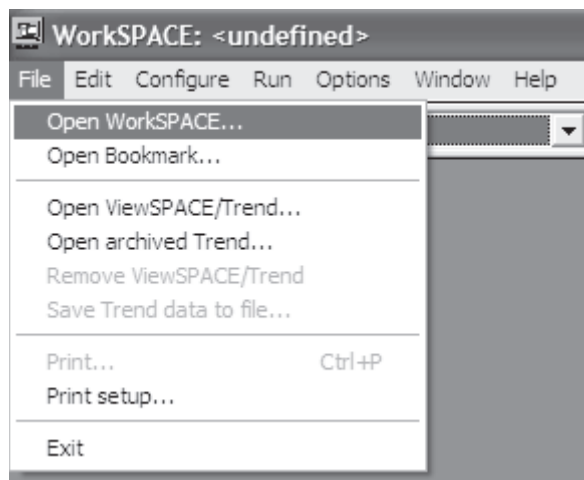

Fig. 15 — Select Open Workspace
14. From chiller display page, select “File” tab at the top of the screen, then select “Open WorkSPACE” (Fig. 15).